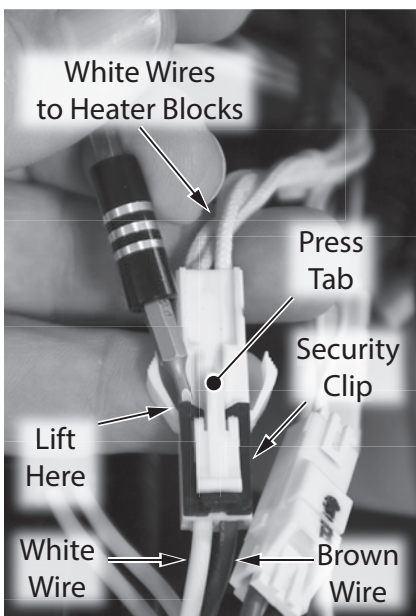

Figure 29 - Disconnect long heater block wiring from control board
- 12** Locate the wire connection between the long heater block assembly and the reverse side of control board. To disconnect, gently remove the security clip with a mini pick or fingernail. Push tab as shown in Figure 29. Separate the harnesses. Place security clip aside in a safe place for reinstallation.